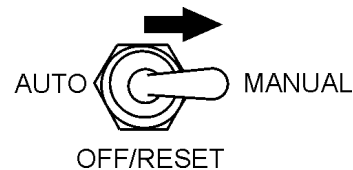

Figure 85. Auto-Off/Reset Manual Switch (Manual Position)
9. Next, place the Auto Start/Stop Switch (Figure 85) to the "Manual" position to start the engine.